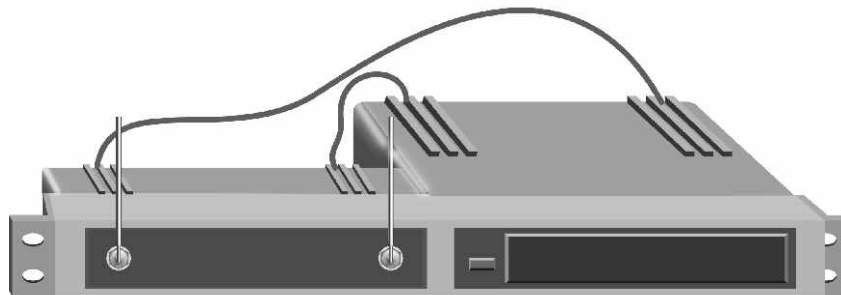

Fig.9
5. Beside joining two sets of receivers to form a 19" rack mountable system, the rack mount kit MP-50 could also be used with antenna front mount accessory to bring the rear antenna of a receiver to the front panel as shown in Fig.9 .